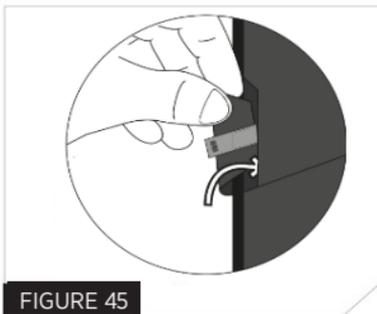

FIGURE 45
21. Ensure the breakout tab is secured in the breakout garage. (Fig. 45).